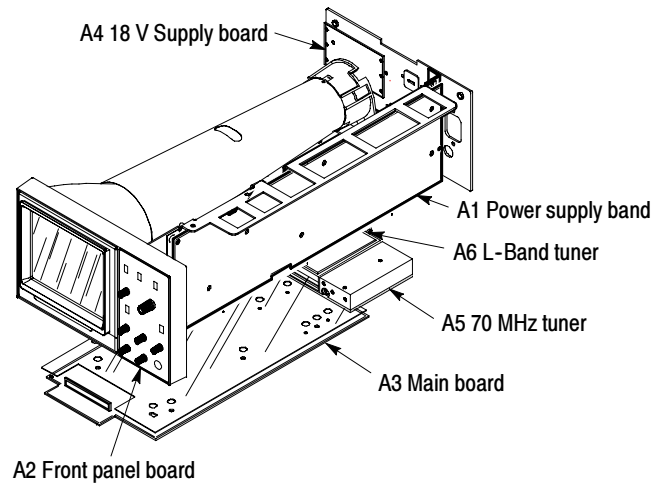

Figure 1: Locations of instrument assemblies
2. Remove the chassis from the can. Figure 1 shows the location of the assemblies in the instrument.